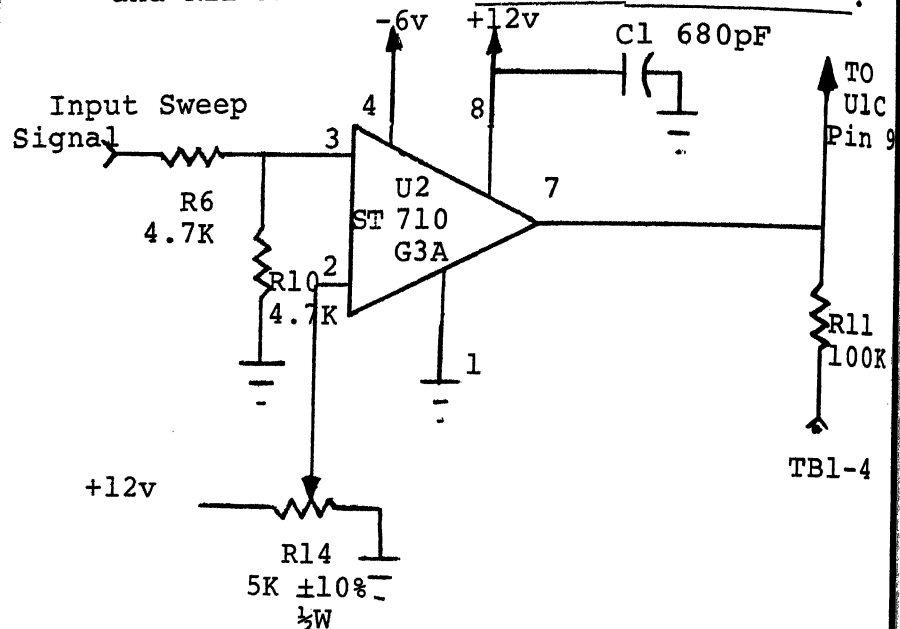

FIGURE 3
18. Refer to figure 3. In the sweep stop comparator, C1 performs _____